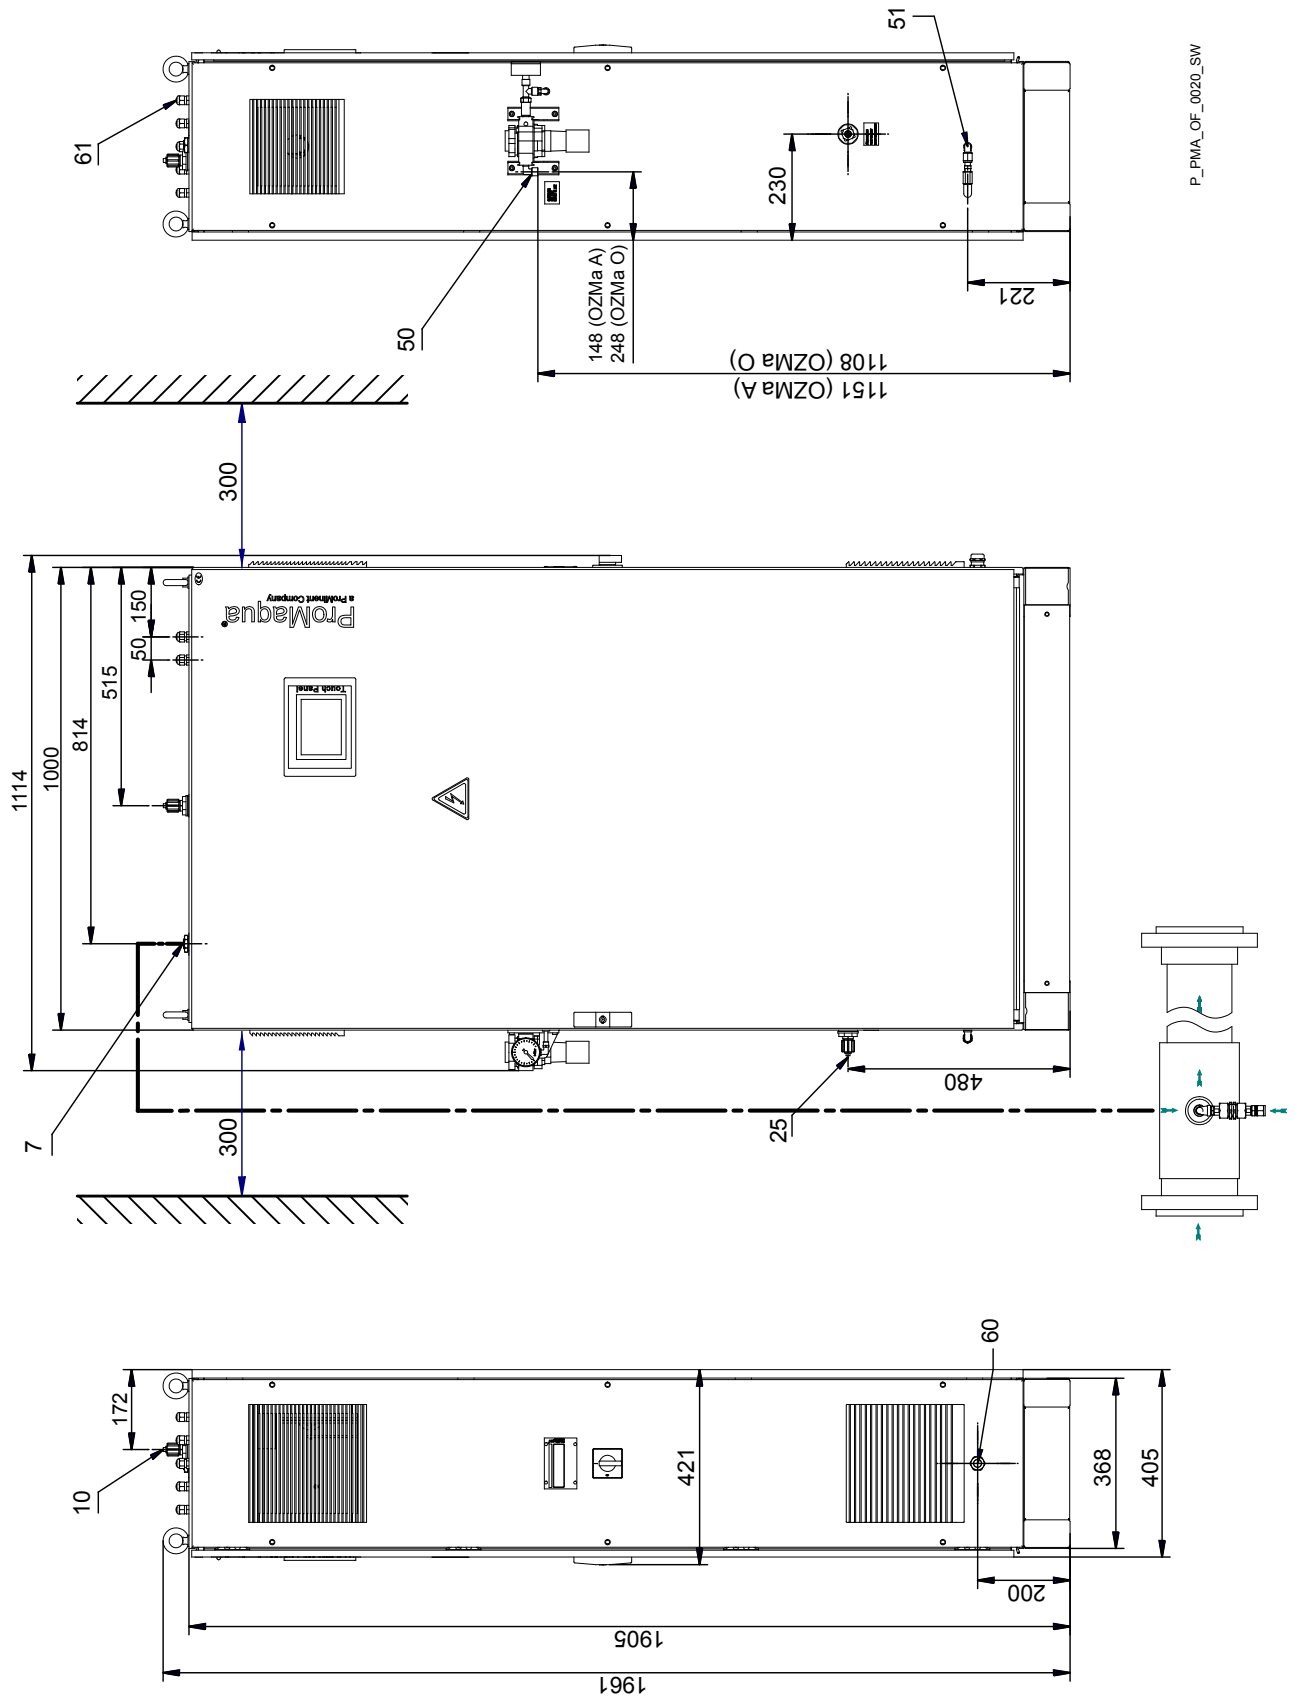

Fig. 9: OZMa system dimensioned drawing
The dimensioned drawing of the OZMa system Fig. 9 shows the position of the inlet connection for ozone on the OZONFILT® OZMa.
1. ➤ The cooling water connections are joined with PE pipes and the connection to the system cabinet is made using a PVC connection set - see the dimensioned drawing of the OZMa system - Fig. 9.